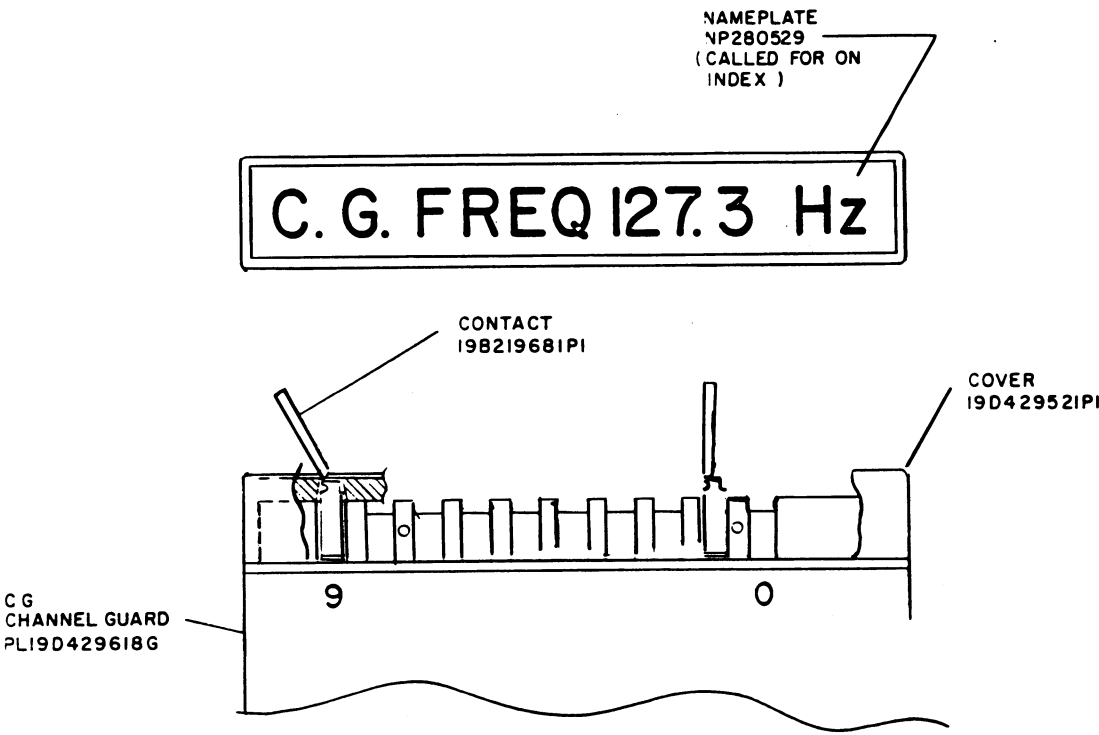

FIG. 1
- 1. INSTALL CONTACT PINS (198219681). PER FIG. 1, IN POSITIONS INDICATED BY "X" IN CHART 1, WHICH AGREES WITH DESIRED CG FREQ. (NOTE - EXAMPLE SHOWN FOR 127.3Hz).